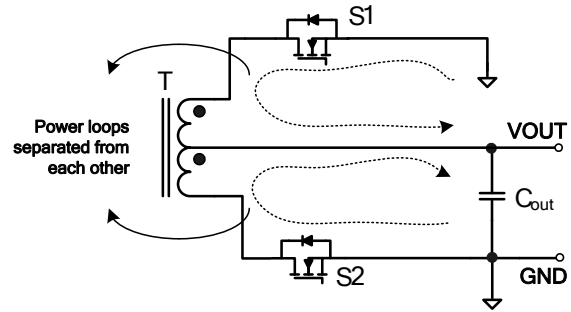

Figure 9: System Power Loop
1. Place a decoupling capacitor no smaller than $1\mu\text{F}$ from V_{DD} to PGND close to the IC for adequate filtering (see Figure 9).
1. Keep the two channels' power loops separated from each other (see Figure 9).